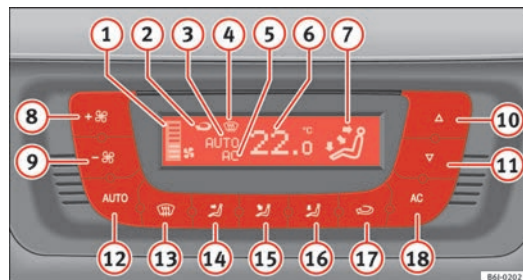

Fig. 93 Climatronic controls on the dash panel
- Press keys **10** and **11** ⇒ fig. 93 to adjust temperature.
- ① Blower level indicator.
- ② Air recirculation display:
- ③ Display **AUTO** (Automatic operation)
- ④ Demisting indicator
- Press the button **AUTO**. The indication ⇒ page 125, fig. 93 7 is visible.
- Press keys 10 and 11 ⇒ page 125, fig. 93 to adjust the desired temperature inside the vehicle. We recommend you adjust the temperature to 22 °C (72 °F).
- Press one of the buttons \Rightarrow page 125, fig. 93  to  or press the blower control  and  down. The indicator is switched off .
The blower can be adjusted with buttons  and  \Rightarrow page 125, fig. 93. If the blower is off (level  is not shown on the screen) and button  is kept pressed down, the Climatronic switches off. Then **OFF** is displayed on the screen.
- Press the button  to switch air recirculation mode on or off. This is ON if the symbol  \Rightarrow page 125, fig. 93 is displayed on the screen.